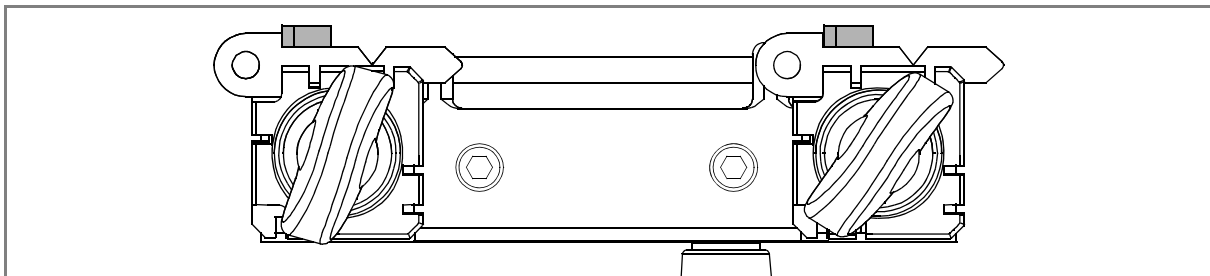

Fig. 14
- 4) Turn the gauge rod (D2) towards the operator so that the gauges come into contact with the adjusting keys (fig. 14). Lower the gauge rod.